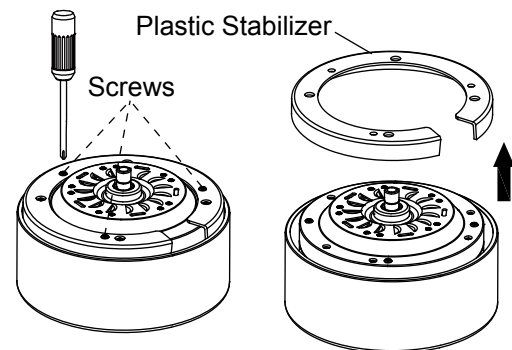

Fig. 7
**Step 5.** Remove and discard the three screws securing the plastic stabilizer on the bottom of motor housing. Remove and discard the plastic stabilizer. (Fig. 7)